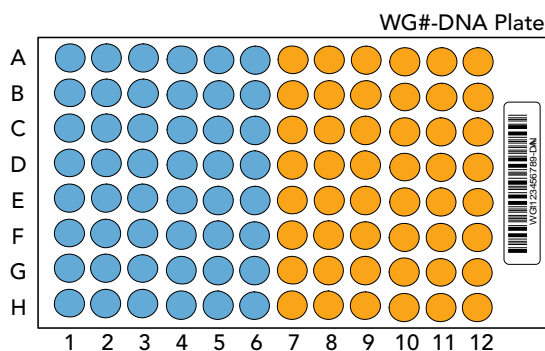

Figure 86 Distributing Sample to WG#-DNA Plate
3. Dispense DNA according to Figure 86:
The example shown in Figure 86 applies to 96 samples. For 48 samples, fill first half of the plate only (blue shaded section).